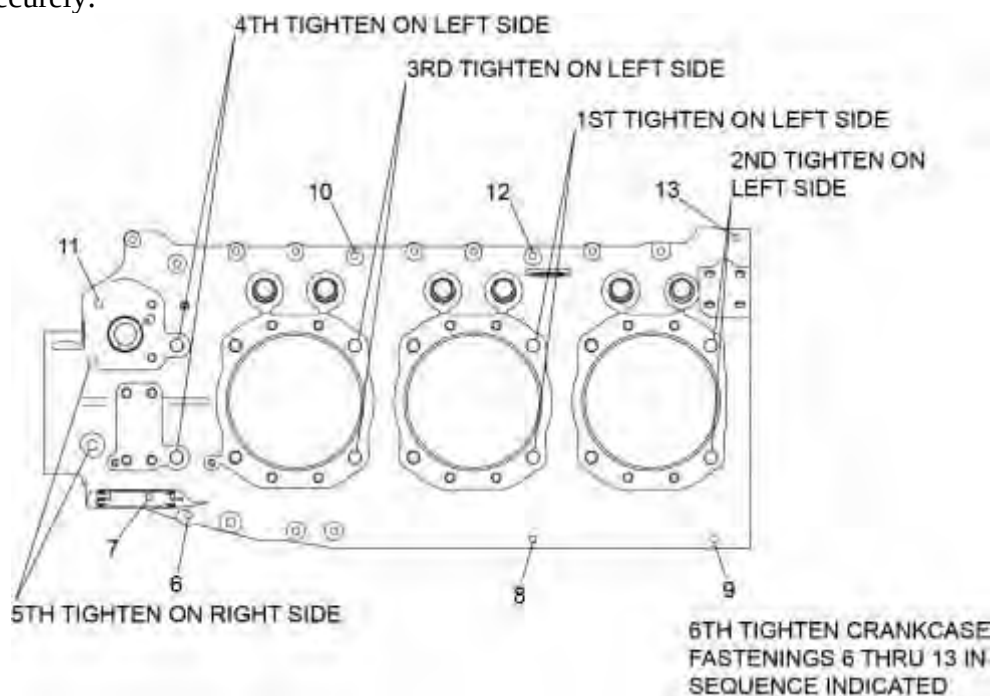

Figure 97
CAUTION TO ENSURE CORRECT ASSEMBLY OF THE CRANKCASE HALVES, TO MINIMIZE THE POSSIBILITY OF THE SUBSEQUENT LOOSENING OF CYLINDER BASE NUTS, AND TO ENSURE A UNIFORM LOAD ON THE MAIN BEARINGS IN THE CRANKCASE, FOLLOW THE STEPS IN THE TORQUE SEQUENCE IN THE ORDER GIVEN IN FIGURE 97.
(14) Install a nut (and spacer as required) on each thru-stud at the mating flanges on the crankcase halves in the sequence shown in Figure 97 to attach the crankcase halves securely.
NOTICE: To ensure uniform loading on the main bearings, immediately torque the nuts on the thru-studs in sequence (Figure 97), beginning at the center of the crankcase and then progressing alternately to the rear and front of the engine.
(15) Tighten the nuts on thru-studs at the:
- (16) Torque the nuts in sequence at positions 1st, 2nd, 3rd, and 4th to 25 ft.-lb. (34 Nm).
- (17) Re-torque the nuts in sequence at positions 1st, 2nd, 3rd, and 4th per the torque values in Table 5.
- (18) Torque the front bolts at position 5 on the right side to 25 ft.-lb. (34 Nm).
- (19) Torque the nuts at positions 6 thru 13 (in the order shown in Figure 97) as indicated in Table 5.
- (20) Torque the remaining crankcase fasteners per Table 5.
- (21) Make sure all fasteners on the crankcase are torqued correctly and none are loose.
- (22) Install the 3/8 in. slotted nut and washer on the stud at the rear camshaft bearing (Figure 97). Torque the nut to 215 in.-lb. (24 Nm). Safety wire the nut as shown in Figure 98.